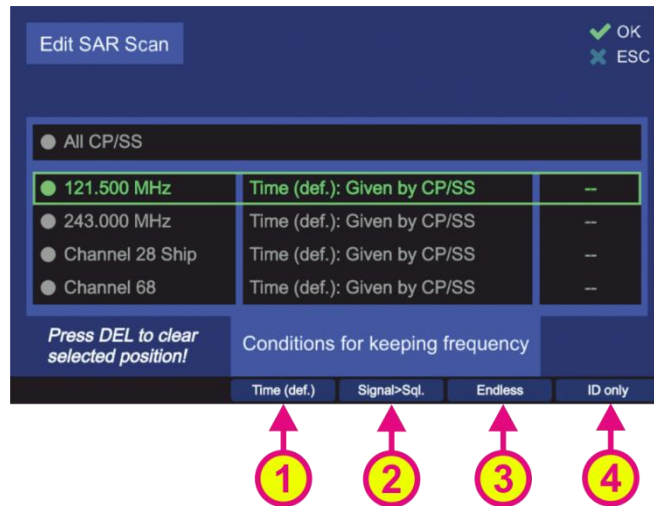

Fig. 51 SAR scan. Edit scan settings
- Pressing the hotkey “Edit Scan” (s. Fig. 49, position 4) opens the dialog for changing the SAR scan settings (s. Fig. 51).
The hotkey “Edit Freq.” opens the input dialog that allows the modification of the currently marked frequency (s. Fig. 32 and its description in 6.2.2.4). This hotkey only appears for the frequencies that are configurable (the last two displayed frequencies: Channel 28 Ship and Channel 68, s. Fig. 51).
- Pressing the hotkey „Time (def)“ (s. Fig. 51, position 1) will set the hold time (duration of staying in the scanning on this particular frequency) to the value that is given by the CP-SS setting (30/N or 45/N), s. 6.2.5.1.
- The hotkey “Signal>Sql.” defines the behavior of the scan algorithm to “signal level > squelch level” (s. Fig. 51, position 2). If this hotkey is pressed, the scan algorithm will stay on the active frequency until the signal level value becomes higher than the squelch value.
- The hotkey “Endless” (s. Fig. 51, position 3) defines the behavior of the scan algorithm when an active frequency has been found.
- Pressing the hotkey “ID only” (s. Fig. 51, position 4) activates or deactivates the feature “ID Only” (s. 6.2.2.3):